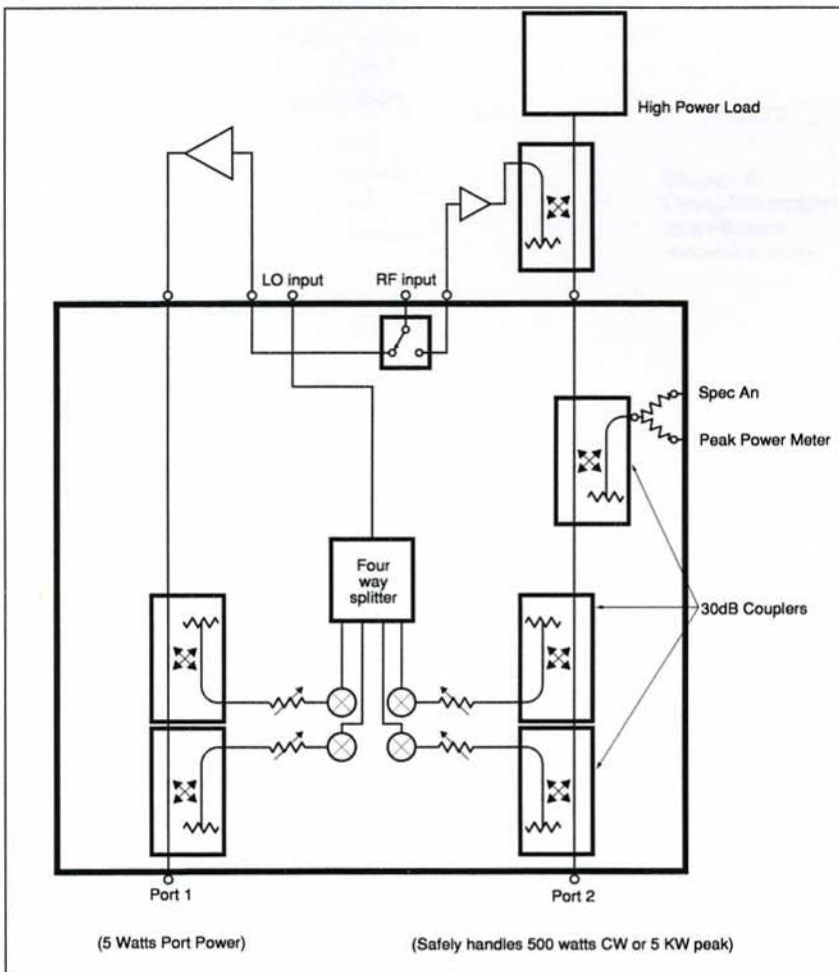

Figure 15. Block diagram for special high-power test set configuration for the HP 85110.
Special HP 8510 test set configurations for high-power testing are available on a request basis. An example of a special HP 85110 configuration is shown in Figure 15. This modified RF block diagram allows up to 500 watts (CW) of high-power handling capability and also provides the ability to connect additional test equipment to the AUT via a single RF connection.